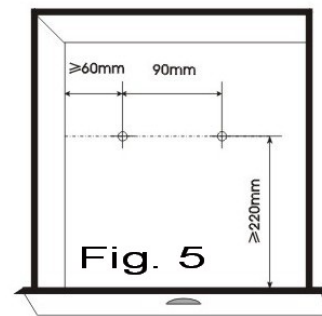

Fig. 5
**PLEASE NOTE:** When installing the dryer in a drawer, drill 2 holes as shown in Fig. 5. Use 4 mm drill. Drill hole for cable entry at the back of the drawer.